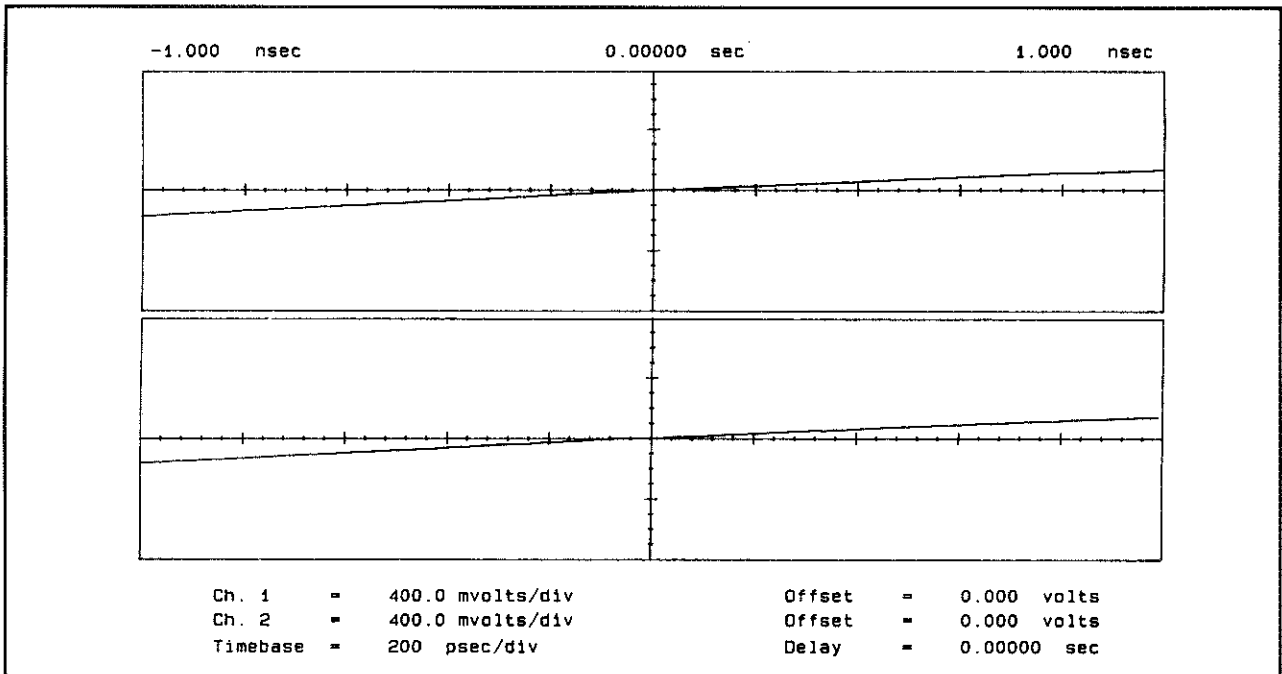

Figure 3-6 Zero Skew Between Channel 1 & 2 Waveform
- R. Rotate the 54100A RPG (rotary knob) to adjust skew. Continue adjusting until the rising edge of channel 2 input signal also crosses the X-axis at the grid origin. *This zeroes the skew that existed between the input channels of the 54100A Oscilloscope. See Figure 3-6.*